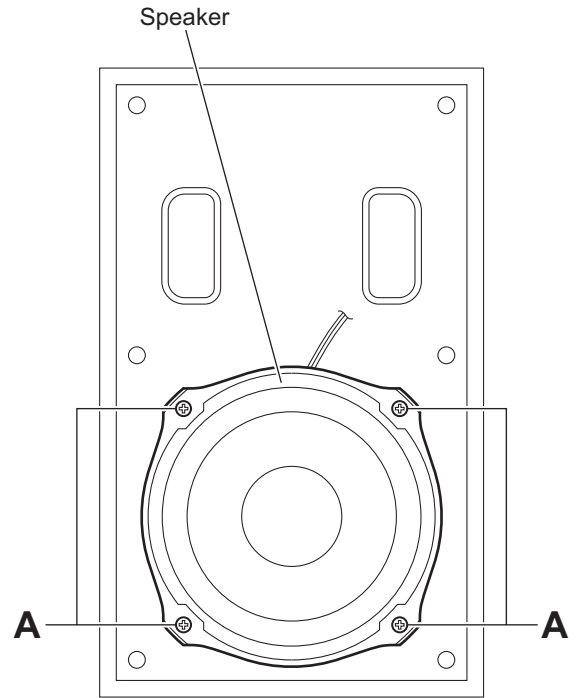

Fig.5
3.4.3 Removing the speaker (See Figs.5 and 6)
- (1) From the front side of the speaker main body, remove the four screws **A** attaching the speaker. (See Fig.5.)